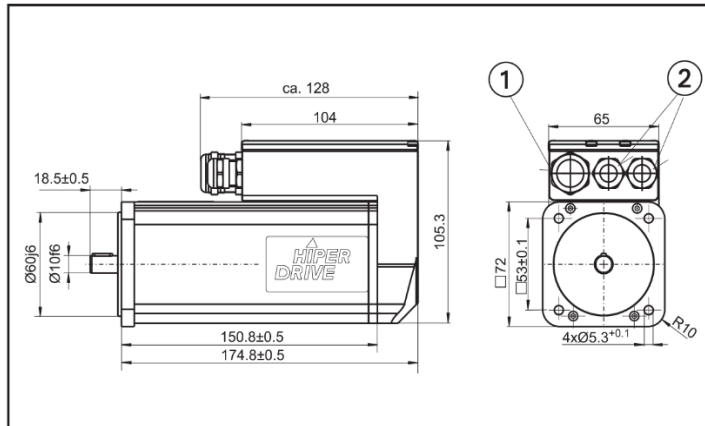

Figure 2: Connecting voltage supply
- Connecting the voltage supply for motor and bus interface ① (1 x M20 cable screw connection) and the bus cables ② (2 x M16 cable screw connections) via the PROFIBUS adapter (**Fig. 2**).